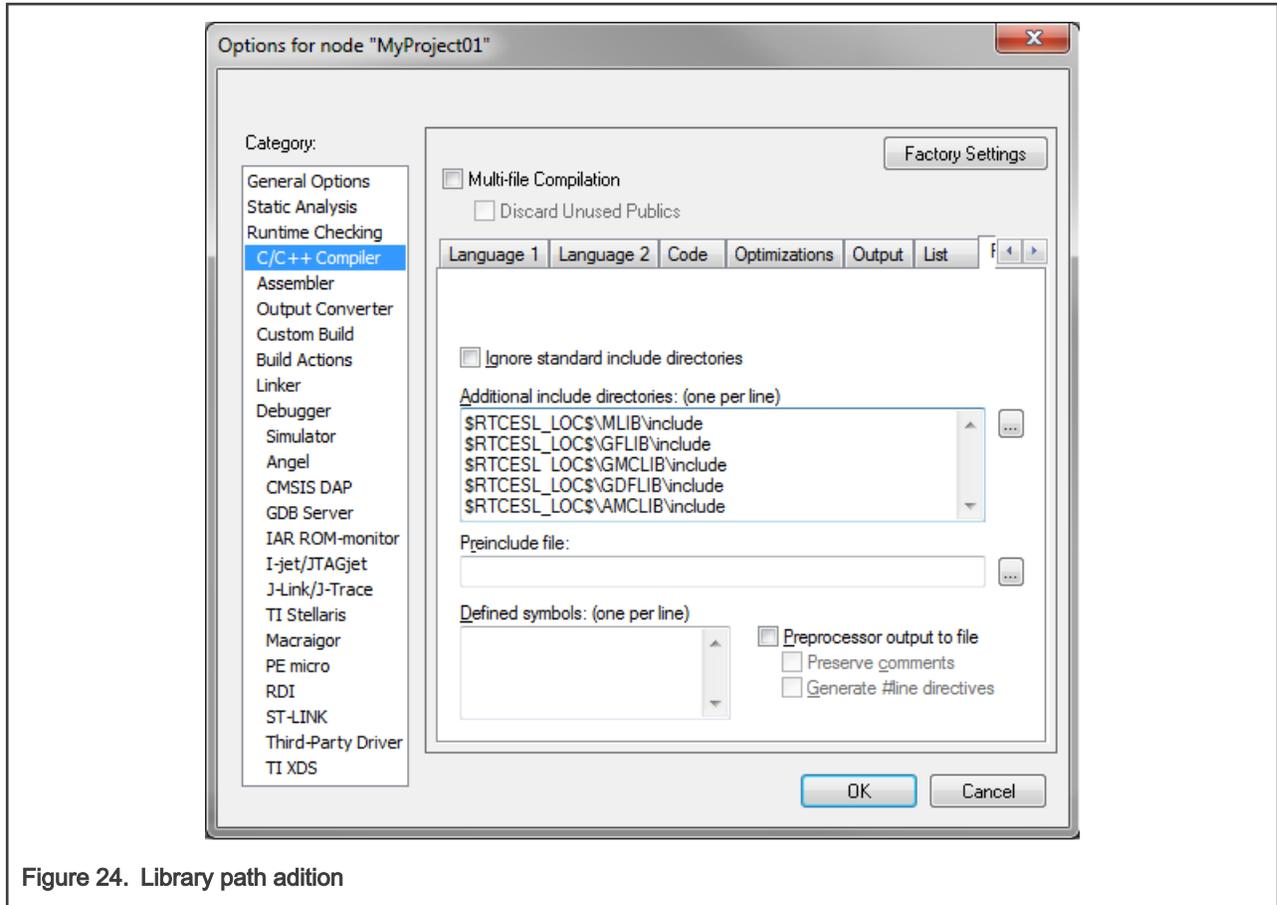

Figure 24. Library path addition
5. Click OK in the main dialog. See Figure 24.